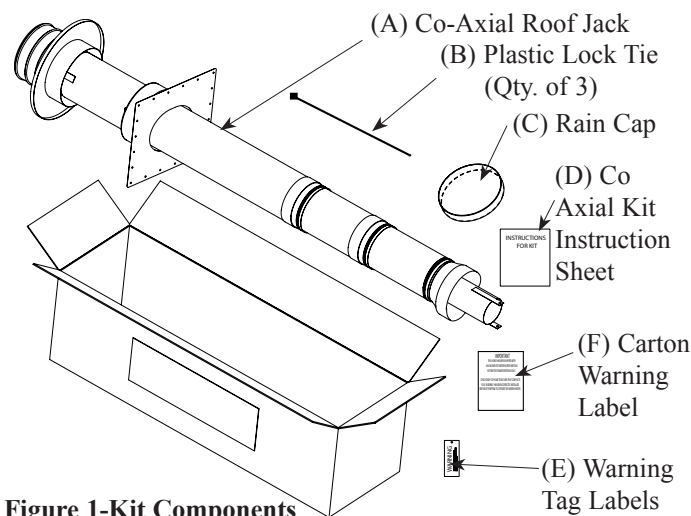

Figure 1-Kit Components
- 1 Inspect shipment.** Inspect the contents of the kit for possible damage. Verify the quantity of the components in the kit. The kit includes: (A) 1- Co-Axial Roof Jack; (B) 3- Plastic Lock Ties; (C) 1- Rain Cap; (D) 1- Co Axial Kit Instruction Sheet; (E) 3- Warning Tag Labels and (F) 1- Carton Warning Label. Please report any shortage to your local distributor or contact 1-800-432-8373 to get a replacement part. (See Figure 1)